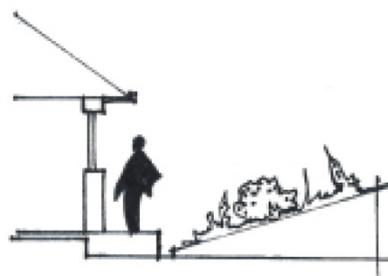

Figure 3: Erosion embankment treatment and erosion protection
- Embankments shall be suitably landscaped to protect the embankment from erosion (see figure 3 sketch below).